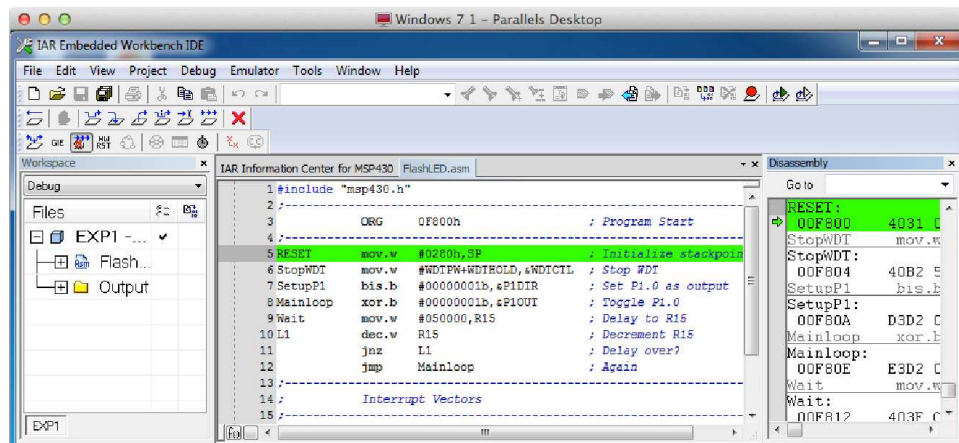

Figure 1.15: IAR debug window.
16. You should now be in the Debugger environment. You should see the Debug toolbar, the second toolbar beginning at the toolbar after the menu bar, and the Disassembly window on the right as shown in Figure 1.15.